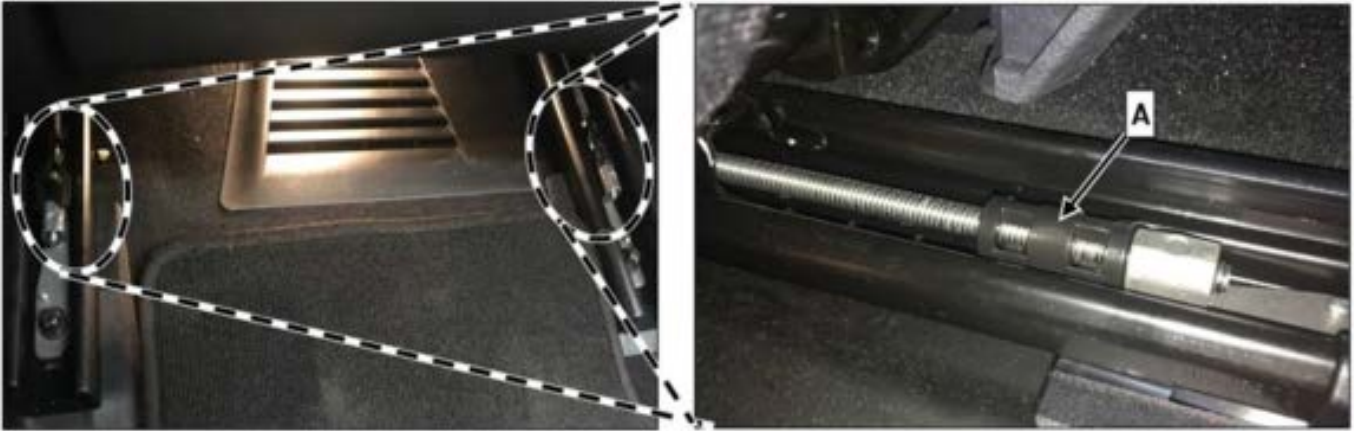

Figure 1
2. Check for presence of seat travel limiter (**A, figure 1**).